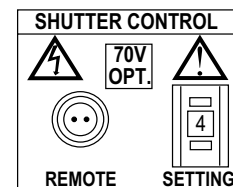

Figure 21. 70 V Shutter Option Label
4. Next place the long tube of the relay lens into the bottom clamp for your microscope, securing it to the relay lens with the three set screws at the top of the clamp as shown in Figure 21.
Note that a camera having the 35 mm shutter can only be used with an ST-133A equipped with the 70 V shutter option. An ST-133A that has the 70 V shutter option can be identified by the **70 V OPT** label on its rear panel as shown in Figure 21.